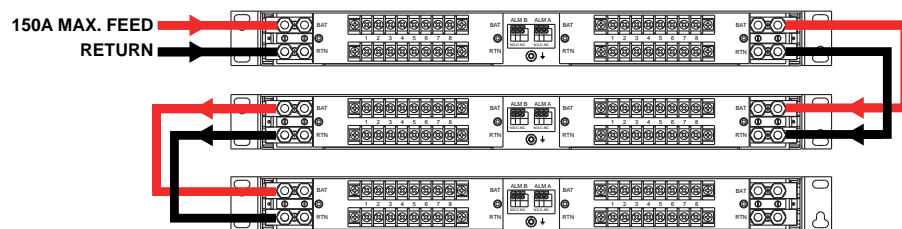

Figure 8. Series Connection of Multiple Panels
Connection is made via two Phoenix Contact spring clamp terminal blocks. ALM-B is for the Form C relay contact of side B and ALM-A is for the Form C relay contact of side A. The terminals, viewed from left to right, are the normally open (NO) common (C) and normally closed (NC) contacts, respectively. See figure 8 below.
NOTE: Single feed models, -S suffix, have both left and right side input bus bars fitted. It is only necessary to connect the input feed to one side for correct operation. The unused side is directly connected to the live input feed and can be used for supplying additional panels. See figure 8 below.